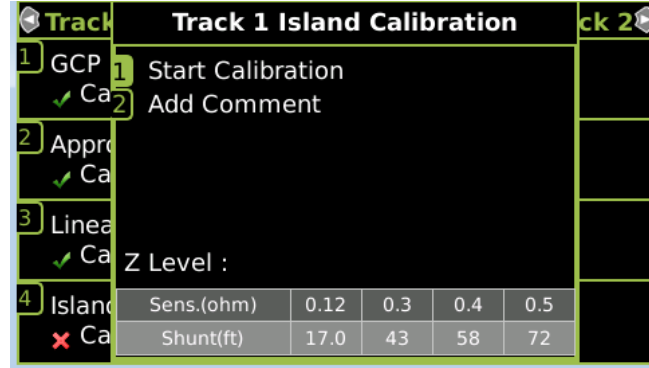

Figure 10 Island Calibration Window
Step 2	<p>Temporarily install a hardwire shunt beyond the island receiver rail connections at the appropriate distance specified below the Calibration Required message.</p> <ul style="list-style-type: none"> Shunt distances for island frequencies are provided in the table following the Island Calibration procedure. The appropriate ones for the configured island frequency are also shown on the calibration screen as shown in Figure 10. Ensure EZ value is less than or equal to 5.